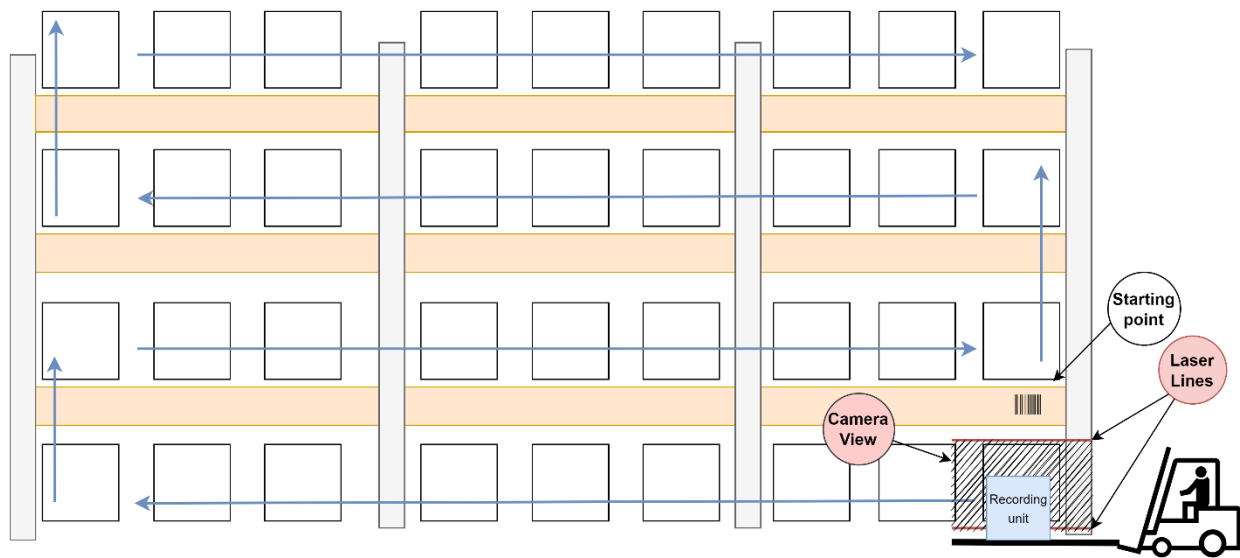

FIGURE 2-8 - SECTION LAYOUT AND RECORDING PROCESS
7. It is important to always keep the recording unit inside the racking system and align with the last pallet location before moving up one level, see Figure 2-8 - Section layout and recording process.